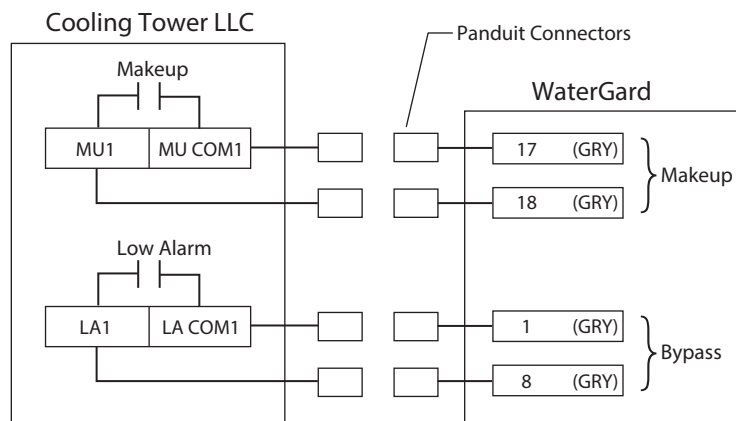

Figure 1
**Refer to Figure 1 for all Configuration terminal designations.**